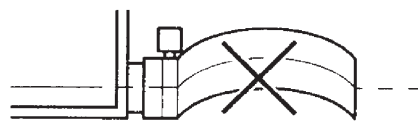
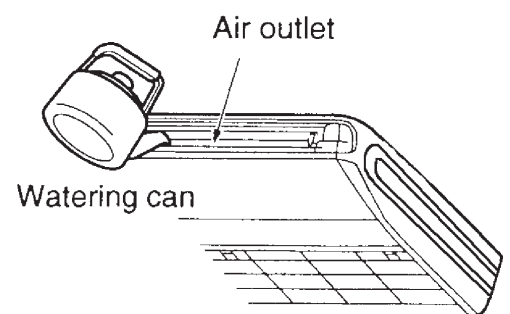

Fig.4
Fig.5
7.4 Lift the unit and slide forward unit the dent. (Refer to Fig. 4)
7.5 Screw tightly both hanger bracket setting bolts (M8). (Refer to Fig. 5)
(Refer to Fig. 5)
- No folding of drain hose inside the indoor unit. (Refer to Fig.4)
(2) Confirm that smooth drainage is achieved after the piping work.
- Pour 600 cc of water into the drain pan from the air outlet for confirming drainage. (Refer to Fig.5)